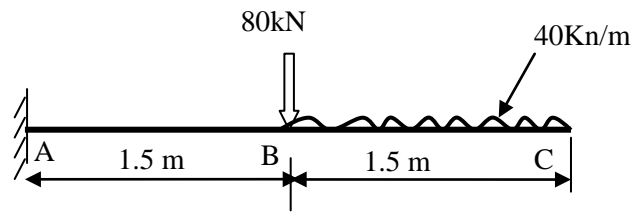

Fig. 2
- (a) For the given beam, draw the shear force diagram in **Fig. 2**. **03**
- (c) Determine the maximum shear stress in the beam shown in Fig. 2, which has a Cross sectional size 115 mm x 300 mm. Also find the shear stress at the free end of this beam. **04**